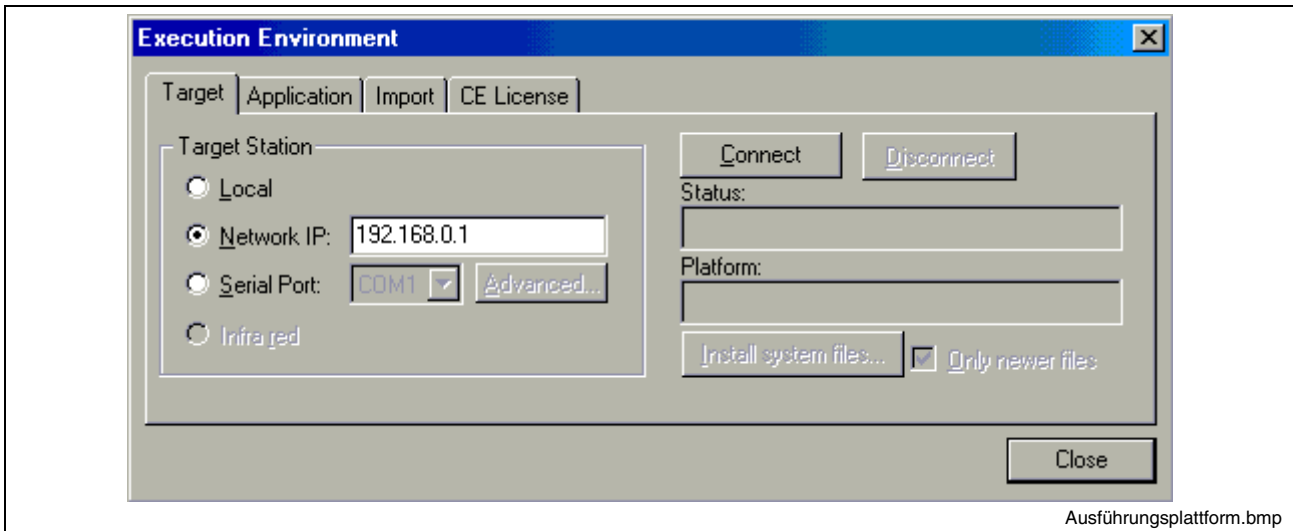

Fig. 3-2: Execution Environment dialog box
6. If the Execution Environment dialog appears (see Fig. 3-2), select the connection type (**Network IP** or **Serial Port**), choose the corresponding parameters or enter the TCP/IP address of your CE device.